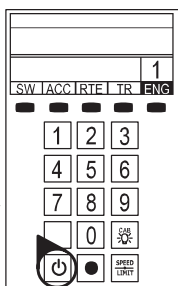

Figure 2. LEGACY start-up
5. Press the Start Up button on your LEGACY CAB-2 Remote, shown in Figure 2. Then, throttle up and move 'em out! Your engine sound will start up, and the locomotive-specific touch screen buttons will populate the remote. For more information on operating your locomotive with the LEGACY system, please refer to the LEGACY section of this manual. Additional information is also found in the LEGACY System Manual, available online at [www.lionel.com](http://www.lionel.com).